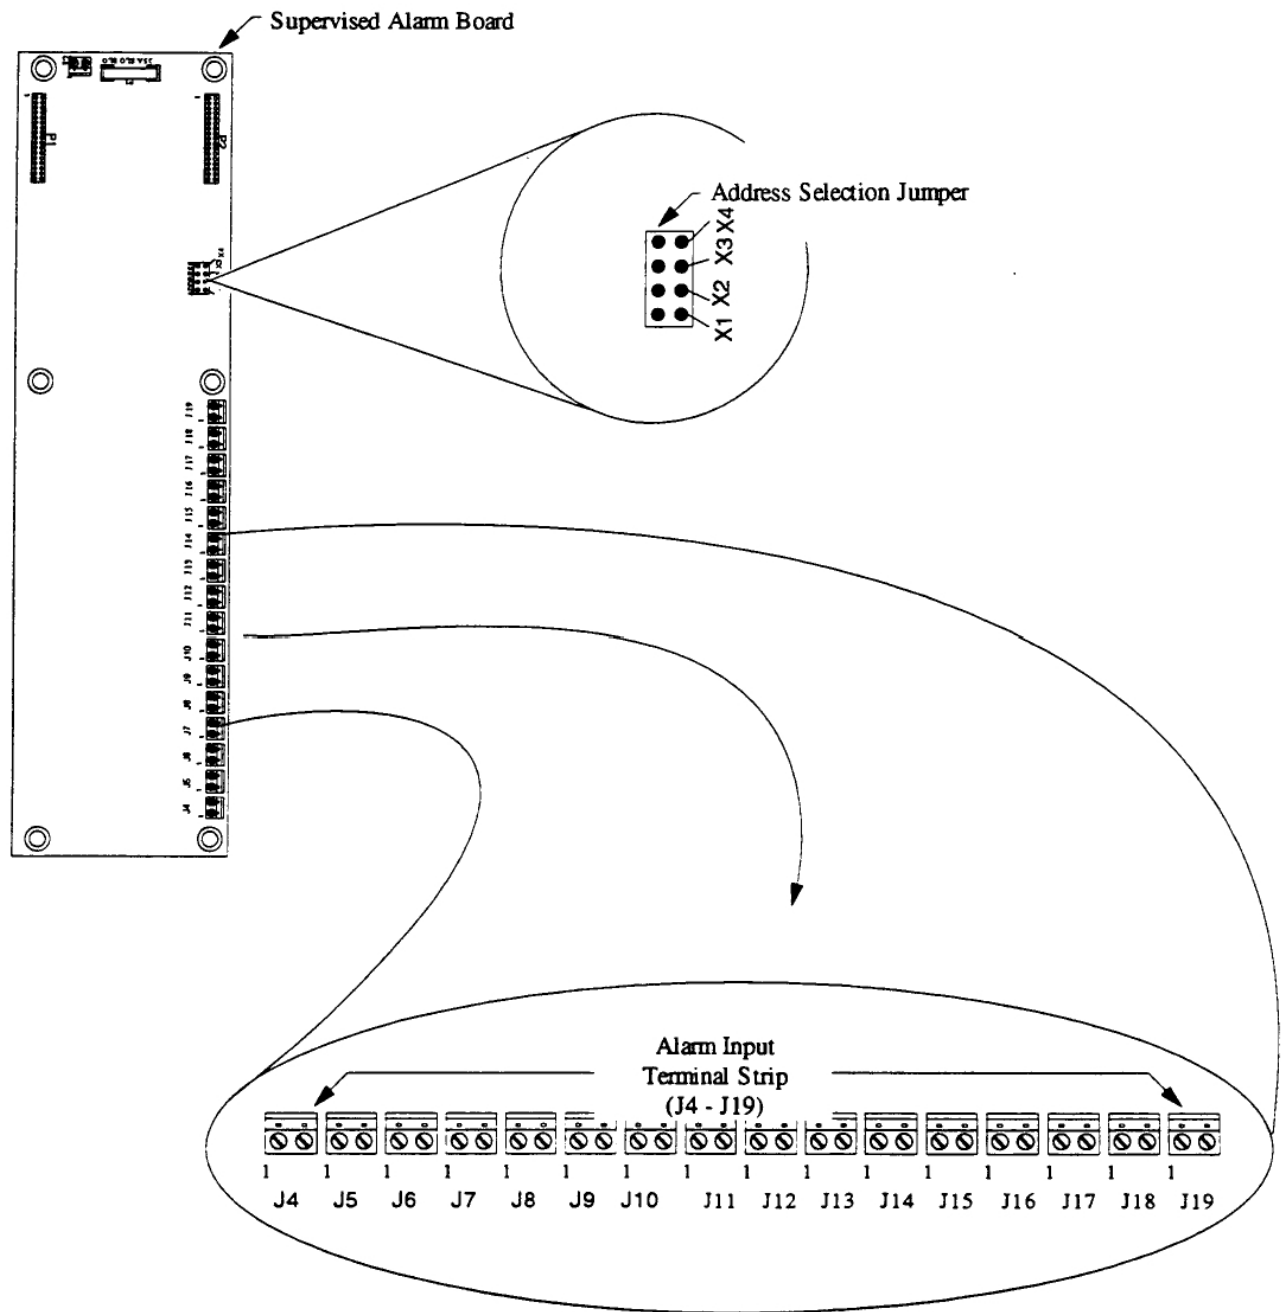

Figure 40 - Supervised Alarm Board Alarm Input Connections and Address Settings
The Supervised Alarm board provides terminal strips for 16 alarm inputs. The alarm inputs are connected to the Supervised Alarm board using connectors J4 through J19 (see Figure 40).
The Supervised Alarm board has an on-board Address Selection jumper that identifies the board to the Superterm (see Figure 40).
- 2) Determine the location of the Expansion I/O board in the order, **from right to left**, that the Expansion I/O boards are mounted (see Figure 40).